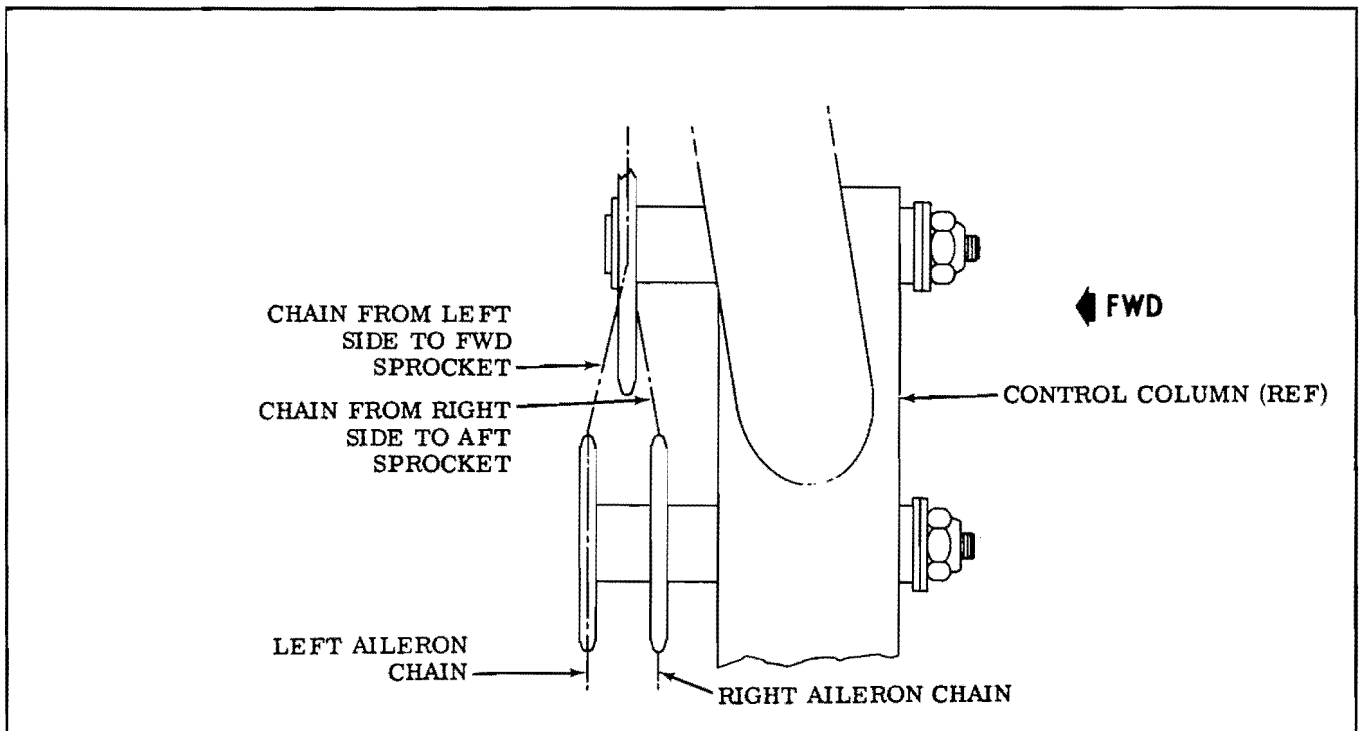

Figure 2.
3. Loosen left aileron chain at turnbarrel, remove from aft sprocket and relocate on forward sprocket (see Figure 2.).
4. Relocate right aileron chain on aft sprocket and reconnect to turnbarrel (see Figure 2.).